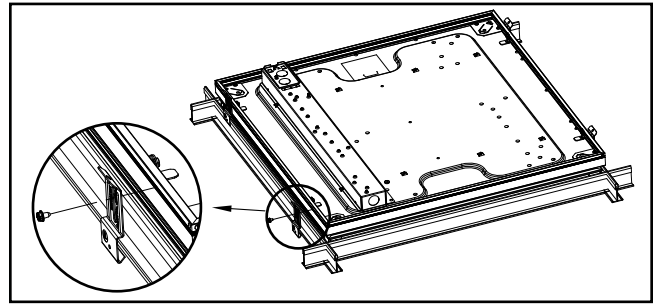

Figure 4.
6. Grid clips are provided for additional retention to ceiling system. Attach grid clips using supplied screws to the aluminum frame of the fixture, and the T-Grid (Fig. 4)